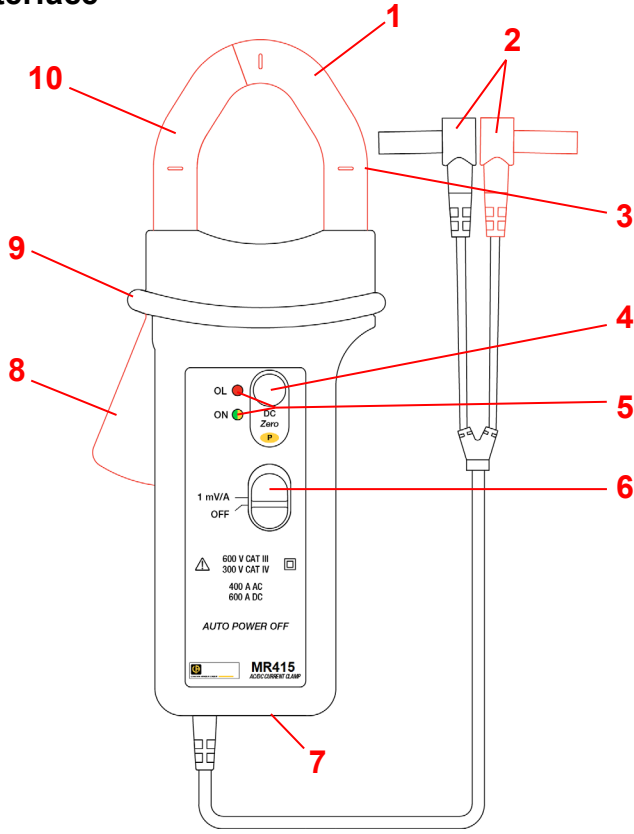

Figure 1 (MR415 shown)
2. Clamp the jaws around the conductor to be measured. Use the centering marks on the jaws to position the clamp around the conductor. If the measurement is to be used in a power calculation, ensure the arrow on the clamp jaws (see Figure 1) points in the direction of the current flow: source $\Rightarrow$ load.